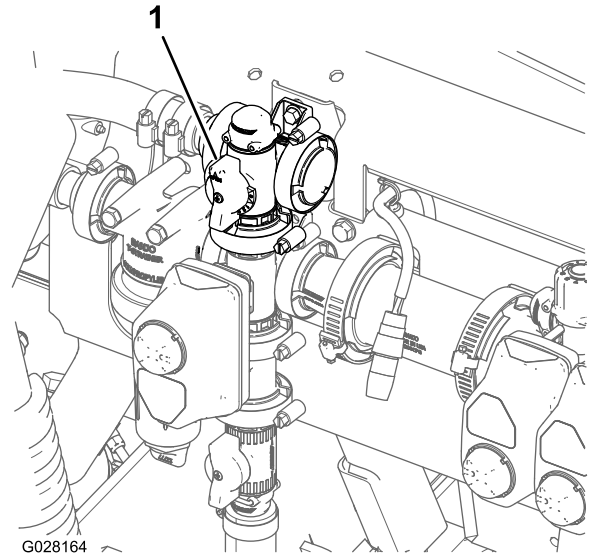

Figure 39
9. Adjust the agitation bypass valve (Figure 39) on the backside of the agitation valve until the sprayer system pressure indicated on the gauge indicates 689 kPa (100 psi).